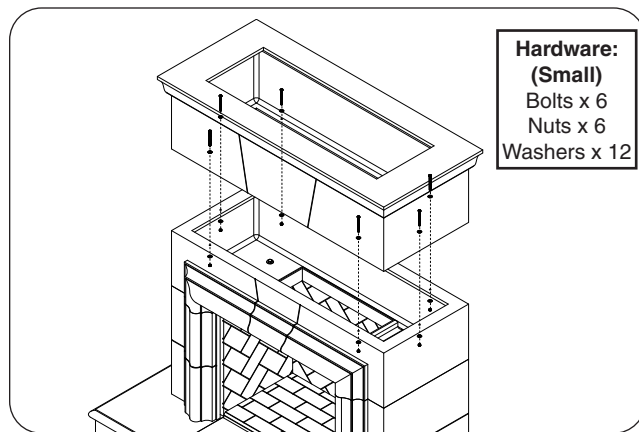

Fig. 25-2 Assemble top body
1. Place the top body piece on top of the middle body piece. Carefully align the pilot holes, and repeat the hardware installation process using the small hardware kits and two 1/2" open end wrenches (or equivalent). See Fig. 25-2.